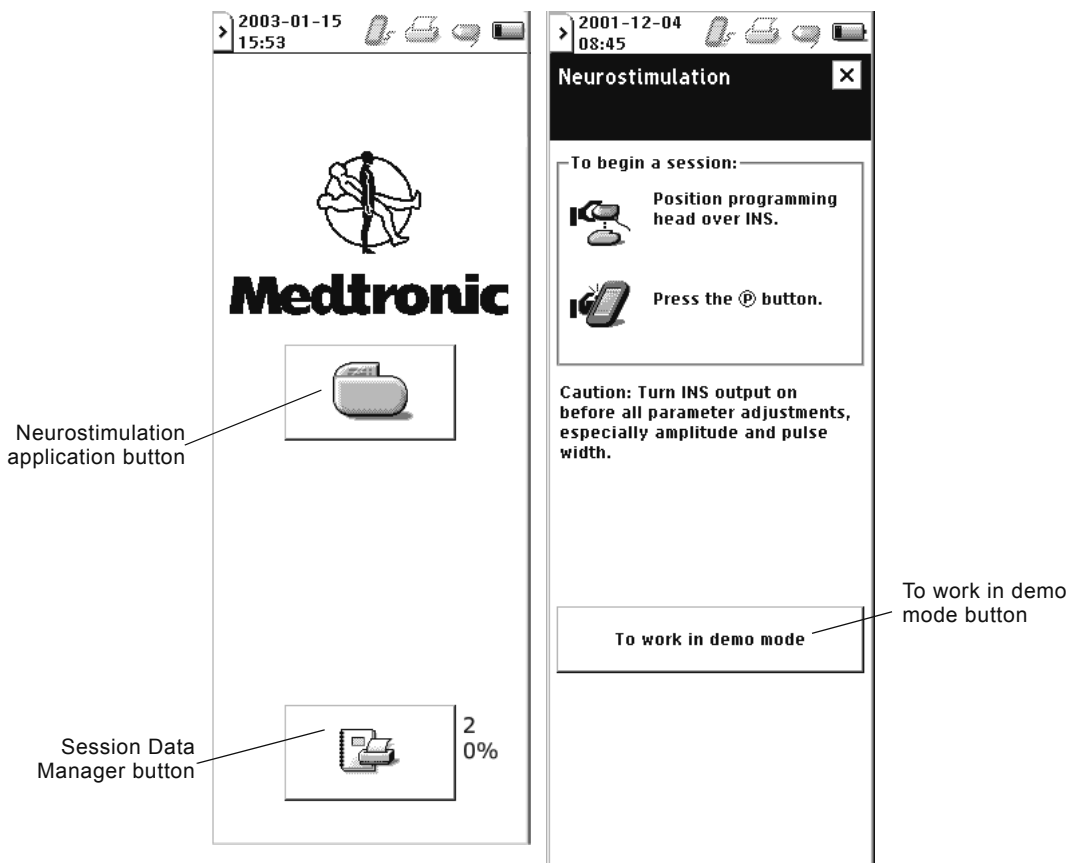

Figure 10. Application Selection and Therapy Desktop screens.
1. Turn the programmer on. The Application Selection screen appears (Figure 10 on page 20).
2. Select the **Neurostimulation application** button (). The Therapy desktop screen appears (Figure 10 on page 20).
1. From the Therapy Desktop (Figure 10 on page 20) select the **To work in demo mode** button.
1. Navigate to the Therapy Desktop screen (Figure 10 on page 20).
Depressing the **Therapy-Stop** key on the programmer turns the neurostimulator off. The **Therapy-Stop** key is available immediately after the Therapy Desktop screen appears (Figure 10 on page 20) and throughout a patient session. The **Therapy-Stop** key is not available while the Model 8870 application is loading or when files are being copied to the application card.